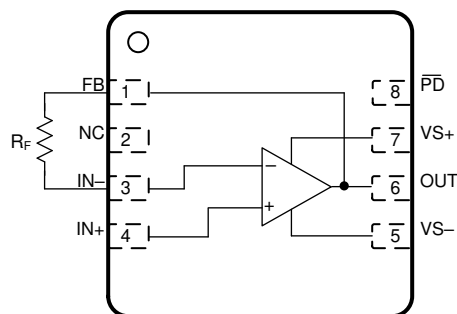

Figure 8-4. R_F Connection Between FB and IN- Pins
1. A feedback resistor (R_F) can connect between the FB and IN- pin on the same side of the package (see Figure 8-4) rather than going around the package.